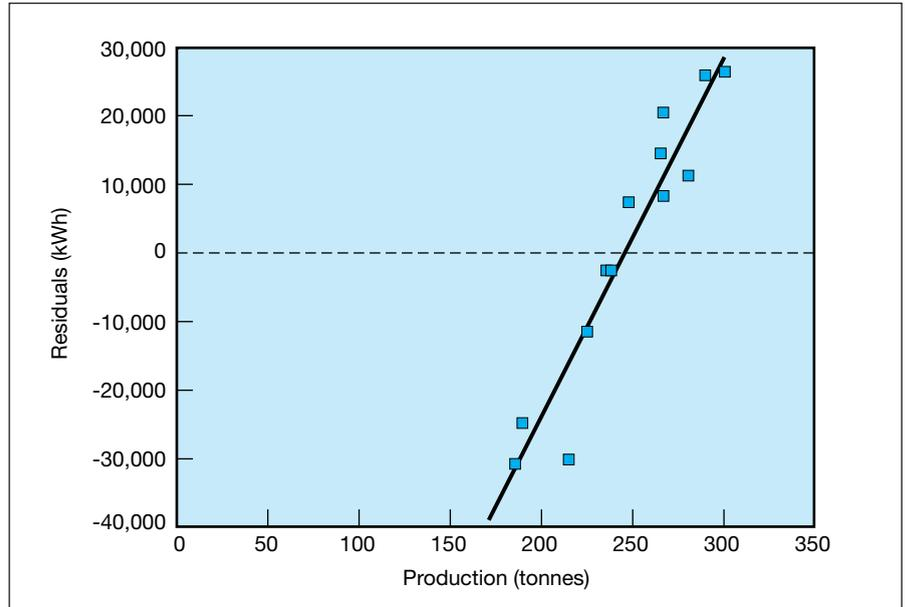

Fig 14 Residuals vs. production
11. Plot a graph of the residuals against the other variable and draw a best fit line (Fig 14). If the best fit line in the previous graph went through the average point, this line will pass through zero at the average value of variable2.
A graph of the residuals against production is shown in Fig 14.